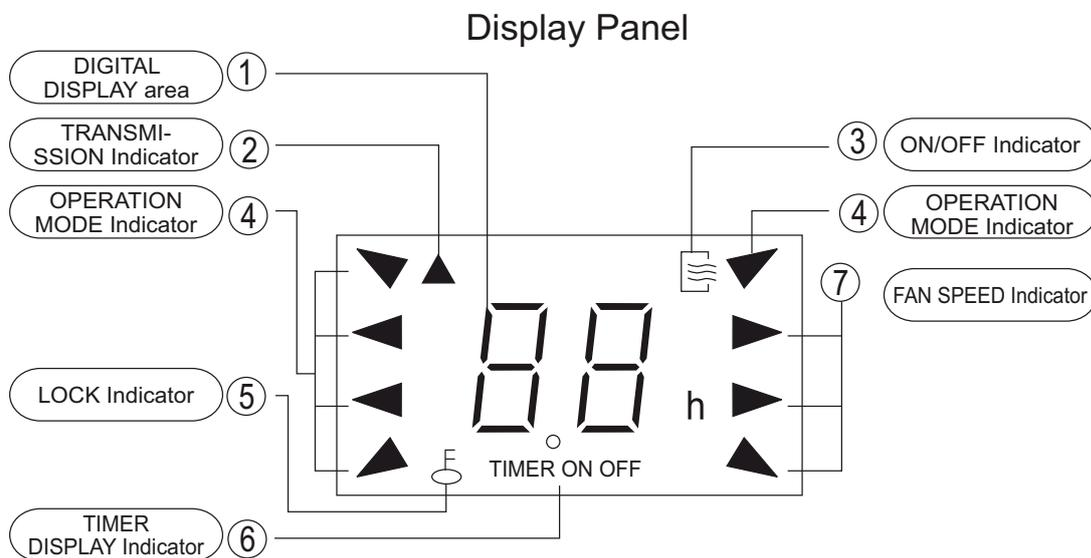

Fig. 2
- ① **DIGITAL DISPLAY area:** This area will show the set temperature and, if in the TIMER mode, will show the ON and OFF settings of the TIMER. If in the FAN mode, nothing is appeared.
- ② **TRANSMISSION Indicator:** This indicator flashes one time when remote controller transmits signals to the indoor unit.
- ③ ON/OFF Indicator: This symbol appears when the unit is turned on by the remote controller, and disappear when the unit is turned off.
- ④ OPERATION MODE Indicator: When press the MODE button, it shows the current operating mode -- "AUTO", "COOL", "DRY", "HEAT"(Cooling only model without) , or "FAN" mode.
- ⑤ LOCK Indicator: LOCK display is displayed by pushing the LOCK button. Push the LOCK button to clear display.
- ⑥ TIMER DISPLAY Indicator: This display area shows the settings of the TIMER. That is, if only the starting time of operation is set, it will display the TIMER ON. If only the turning off time of operation is set, it will display the TIMER OFF. If both operations are set, it will show TIMER ON-OFF which indicates you have chosen to set both the starting time and off time.
- ⑦ FAN SPEED Indicator: Press the FAN SPEED button to select the desired fan speed setting (Auto-Low-Med-High). You selection will be displayed in the LCD window except the Auto fan speed.
**▲ NOTE:** All signs shown in the Fig.2 is for the purpose of clear presentation. But during the actual operation only the relative functional signs are shown on the display panel.